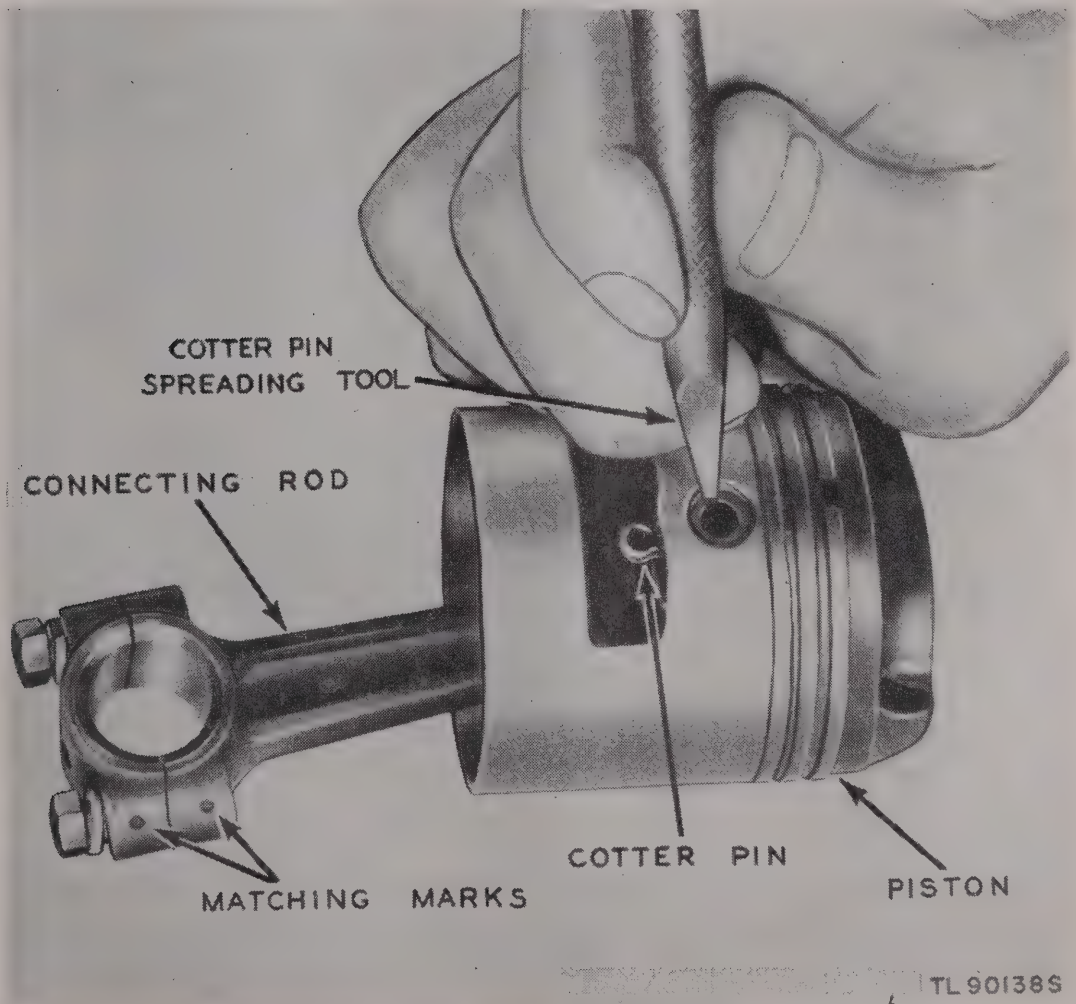

Figure 40. Installing cotter pin in piston.
- (1) Spread the piston rings and install them in the piston grooves. If the old rings are being re-used, transpose them by installing the bottom ring in the top groove and the top ring in the bottom groove.
- (2) Position connecting rod in piston and install piston pin. This should be a light tap fit. If the piston pin is loose in the piston, it will shear the cotter pin. Side movement of the pin may occur and cut grooves in the cylinder liner. Install a new cotter pin to lock the piston pin in the piston. Spread the center of the cotter pin with a sharp V-shaped tool after the pin is in place (fig. 40).